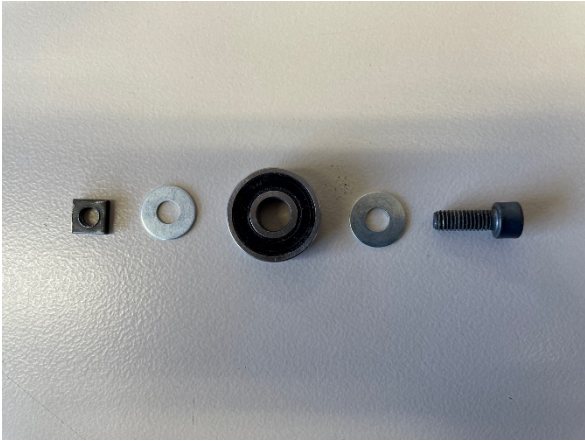

Figure 2
- Mount the M6 x 18 screw, the square nut and two M6 x 18 x 0.8 mm washers supplied with the scrolling bearings, on one of the scroll bearings. (Fig 2)